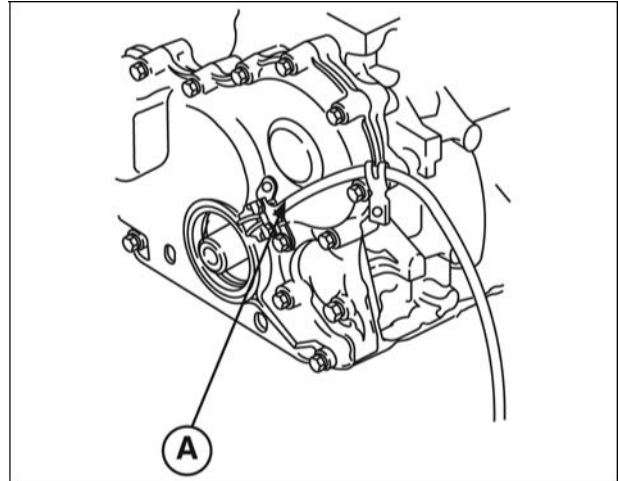

Figure 4
11. Remove trigger (A, Figure 4) and wire. Remove timing gear cover (B) and discard timing gear gasket.